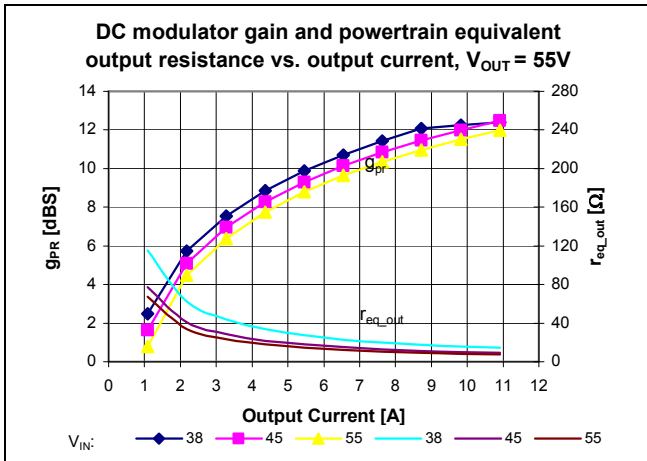
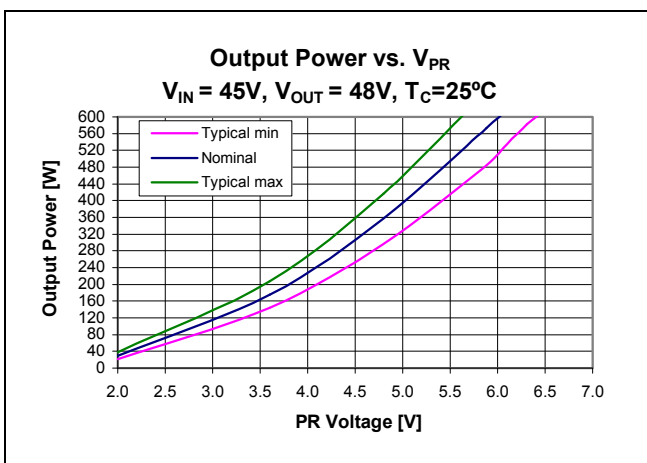

Figure 17 – Powertrain characteristics vs. I_{OUT} ; Resistive load, $V_{OUT}=55V$, various V_{IN}
Figure 21 – Output Power vs. V_{PR} ; $V_{IN}=45V$, $V_{OUT}=48V$, $T_{CASE}=25^{\circ}C$
Control node (PR) is the input to the control node which determines the powertrain timing and ultimately the module output power (Figure 21). An internal 0.5mA current sink is always active. The bi-directional buffer between PR and the control node has two states. In normal operation, PR will be above the 0.79V switching threshold, and will drive the control node through the buffer. An internal 7.4V clamp determines the maximum output power that can be requested of the modulator. When PR falls below 0.79 V, the converter will stop switching. An internal circuit clamps the modulator input control node to 0.79 V, and a buffer will source up to 2.5 mA out of the pin at that clamp level. For this reason, the output impedance of the amplifier driving PR must be taken into account. A rail-to-rail operational amplifier with low output impedance is always recommended. The powertrain small signal (plant) response consists of a single pole determined by the load resistance, the powertrain equivalent output resistance, and the total output capacitance (internal and external to the module). Both the modulator gain and the equivalent output resistance vary as a function of line, load and output voltage, as shown in Figures 17, 18 and 19. As the load increases, the powertrain pole moves to higher frequency. As a result, the closed loop crossover frequency will be the highest at full load and lowest at
- Modulator Gain g_{PR} : See Figures 17, 18, 19
- Powertrain equivalent resistance r_{EQ} : See Figures 17, 18, 19